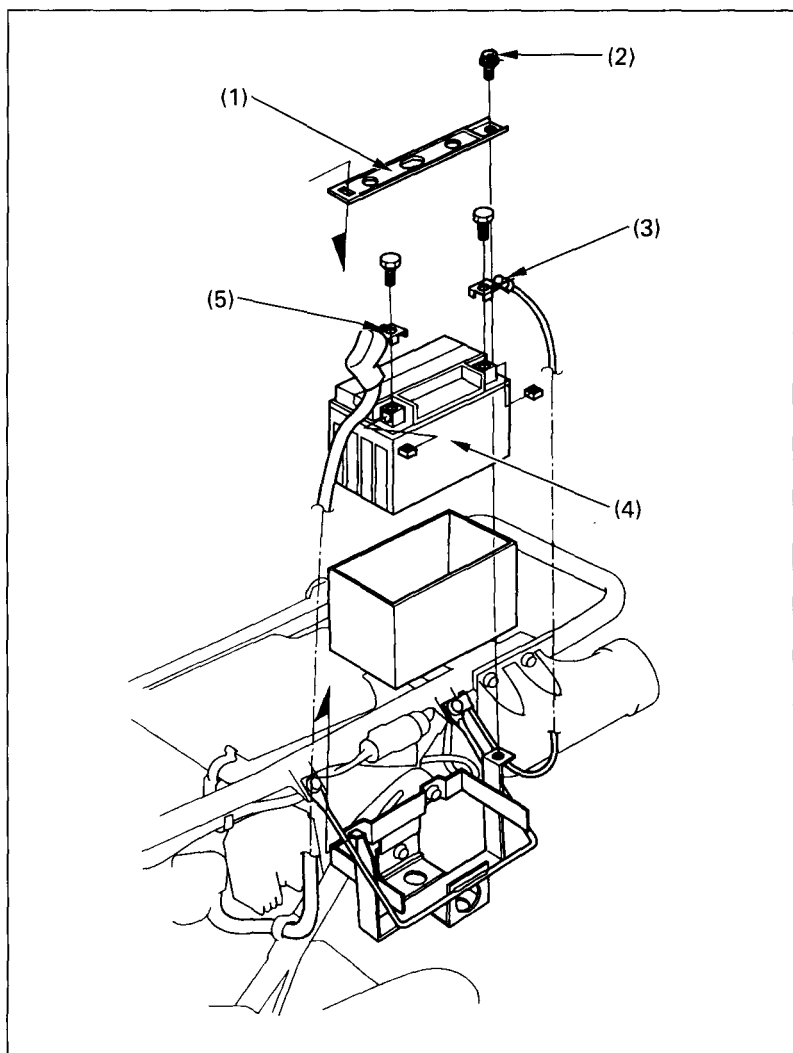

Fig. 4-20
3. Remove the battery holder (1), (Fig. 4-20) by removing the mount bolts (2).
4. Disconnect the negative (-) terminal lead (3) from the battery (4) first, then disconnect the positive (+) terminal lead (5).